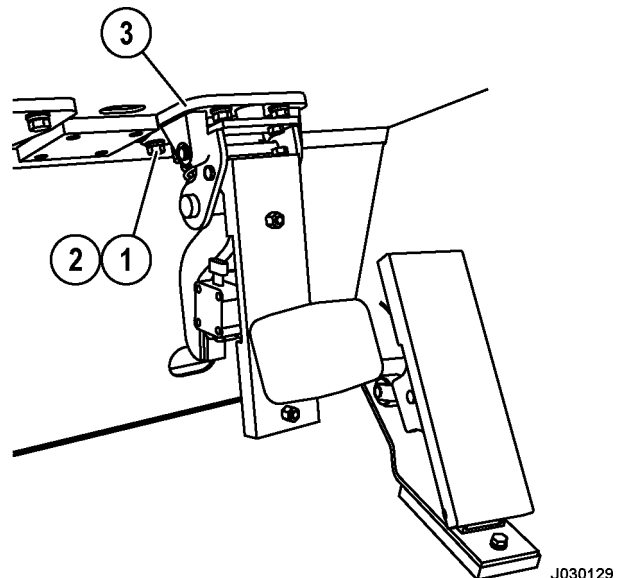

FIGURE 50-2. BRAKE VALVE REMOVAL
8. Remove capscrews (1, Figure 50-2) and lockwashers (2) that secure brake valve (3) to the mounting structure.